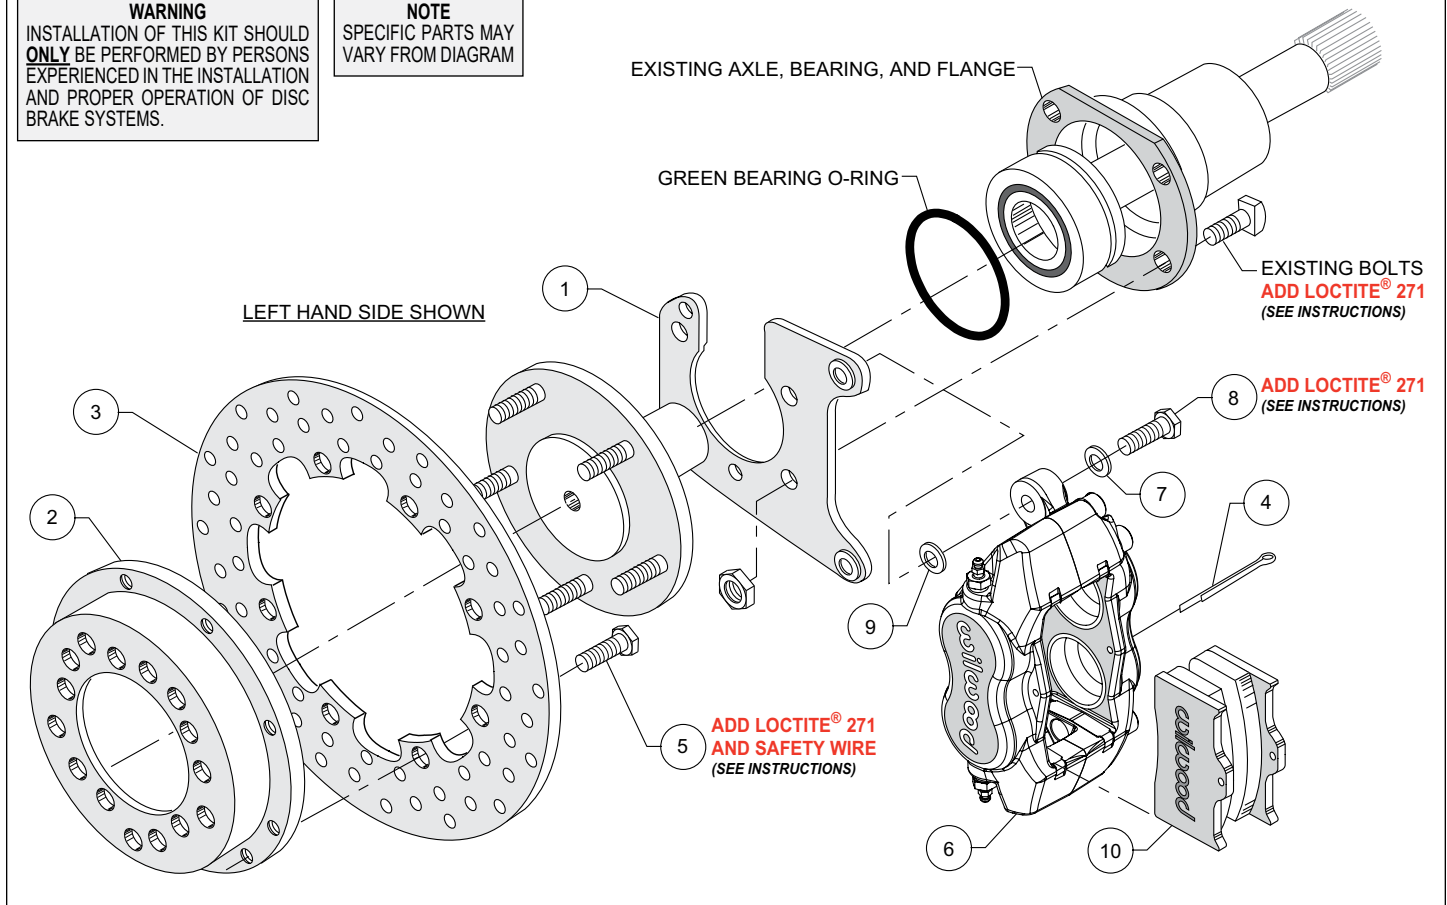
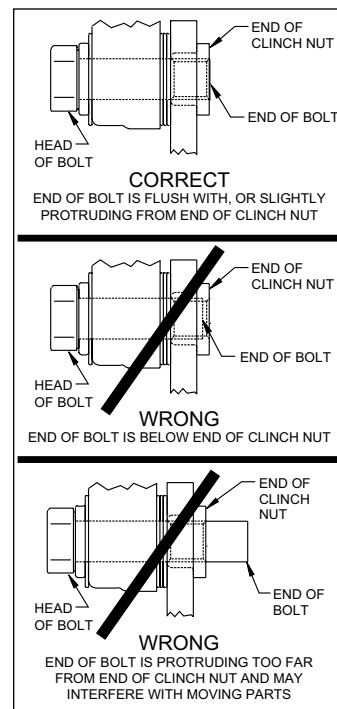

Figure 4. Typical Installation Configuration
Figure 8. Clinch Nut Engagement Diagram
**NOTE:** Numbers in parenthesis refer to the parts list and Figure 4 on the preceding pages.
**CAUTION:** All mounting bolts must fully engage clinch nuts. Be sure to check that all bolts are either flush or protruding through flanged side of clinch nut after shimming, Figure 8.
- Orient the bracket assembly (1) as shown in Figure 4 and install it onto the axle to retain the bearing. Ensure that the bracket assembly plate fits flush against the axle housing flange. Secure
bracket assembly to the axle housing flange using the Original Equipment Manufacturer (OEM) bolts and nuts, Figure 4. Stock OEM hex nuts that retain the bracket (1) should be on the wheel side of the bracket. Apply red *Loctite*® 271 to the OEM bolt threads and torque to OEM specifications. **NOTE:** Make sure the heads of the caliper mounting bracket insert nuts (1) are FACING OUTWARD TOWARDS THE WHEEL, see Figure 4.
•**NOTE:** Please reference the caution statement at the beginning of the assembly instructions. Mount the caliper (6) onto the caliper mounting bracket (1) using bolts (8) and washers (7), as shown in Figure 4. Initially place one .032" thick shim (9) on each bolt between the caliper and the bracket, Photo 1. Temporarily tighten the mounting bolts and view the rotor (3) through the top opening of the caliper. The rotor should be centered in the caliper, Photo 2. If not, adjust by adding or subtracting shims between the bracket and the caliper. Always use the same amount of shims on each of the two mounting bolts. **NOTE:** The end of each bolt must be flush with or slightly protruding from the head of the clinch nut, as shown in Figure 8. If necessary place spare shims between washer (7) and caliper mounting ear to achieve the proper clinch nut engagement. Once the caliper alignment and clinch nut engagement are correct, remove the bolts one at a time, apply red *Loctite*® 271 to bolt threads, and torque to 40 ft-lb. Caliper mount bolts may be safety wired for additional security.
•Install the disc brake pads (10) into the caliper, with the friction material facing the rotor (3), and secure in place using cotter pin (4), Photo 3.